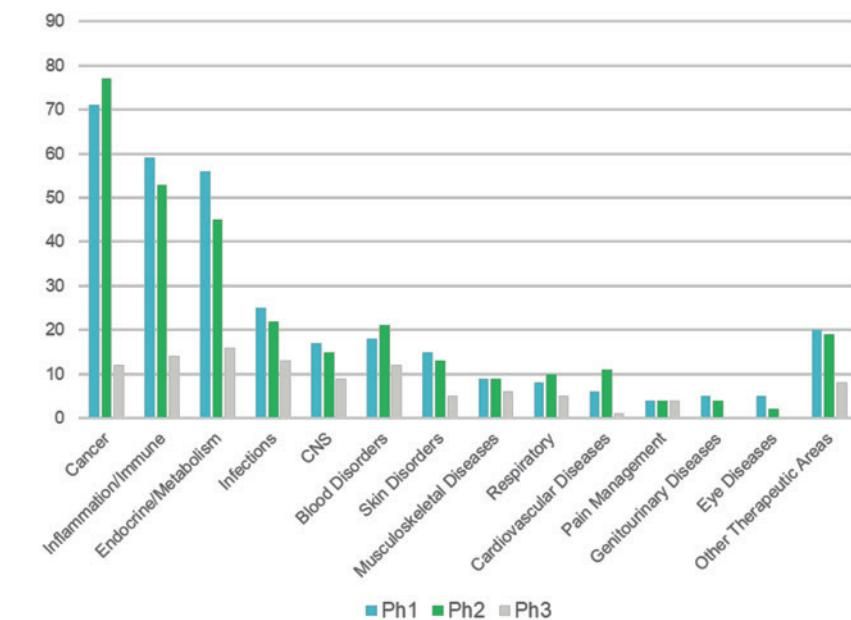

Figure 1: Number of NME SC biologics programmes in the clinic.1
A real focus of biologics research and development lies in new molecular entities which can be administered into the subcutaneous (SC) tissue. Therapeutic areas such as growth hormones and diabetes have long shown efficacy through SC delivery and an established patient acceptance of self-injection and pain tolerance. These therapeutic areas are rapidly being joined by oncology, and autoimmune and blood disorders, which traditionally had IV and infusion as the main routes of administration but which are now seeing novel drug launches with SC delivery routes (Figure 1).